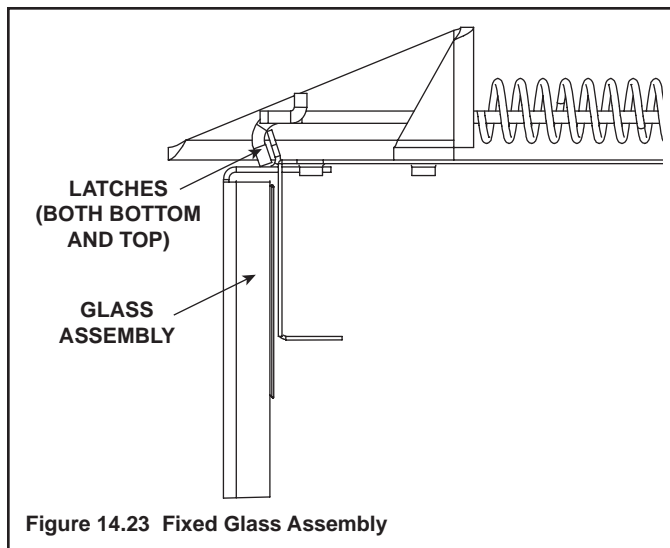

Figure 14.23 Fixed Glass Assembly
- Pull the four glass assembly latches out of the groove on the glass frame. Remove glass door from the appliance (see Figure 14.23).